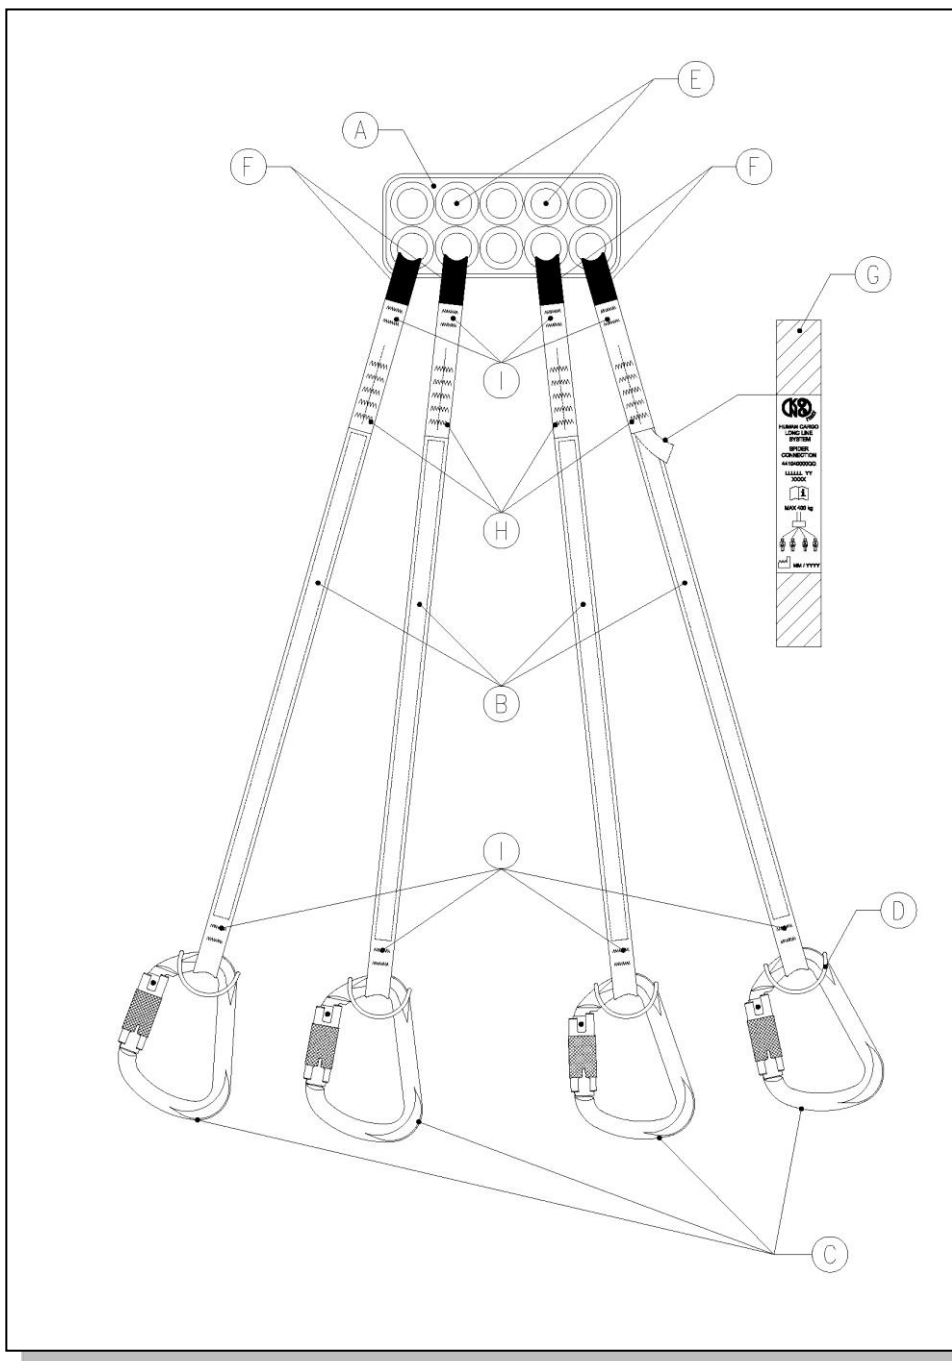
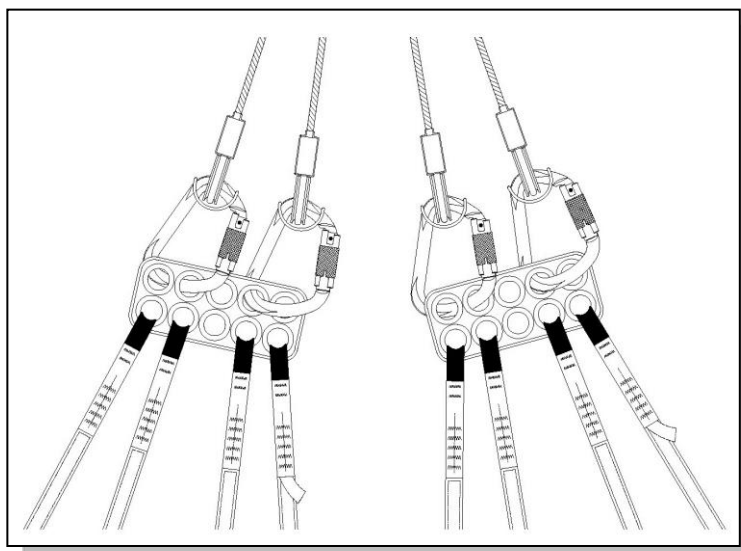

Fig.5 – Spider connection
Fig.8 – Connection between end termination connectors and spider connection
The Spider Connection (fig. 5) consists of:
- connect the Spider Connection to the End Termination with at least 2 of the 4 connectors of which it is provided; use for the connection the two holes identified in figure 5 with the letter E to ensure a correct load balancing
Terminology of parts: (Fig. 5): (A) Multi-anchoring, (B) textile arms, (C) X-Large steel connectors with automatic sleeve, (D) Fast, (E) End Termination connection holes, (F) Protection loop webbing, (G) Spider Connection label, (H) Main stitchings, (I) Secondary Stitchings.
Connect the dedicated holes of each Spider Connection (fig.8) to two End Termination connectors in the following ways:
- insert the connector in the upper middle holes of the Spider Connection (Fig. 5 - E),
connect each Spider Connection to the End Termination with at least 2 of the 4 connectors provided; use for the connection the two holes identified in figure 5 with the letter E to ensure a correct load balancing (see the correct installation in figure 8).